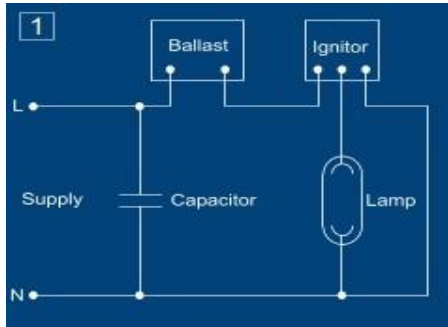

Fig.16
- 4 Connect the accessories as per circuit diagram, Fig 16 using the recommended type of termination.